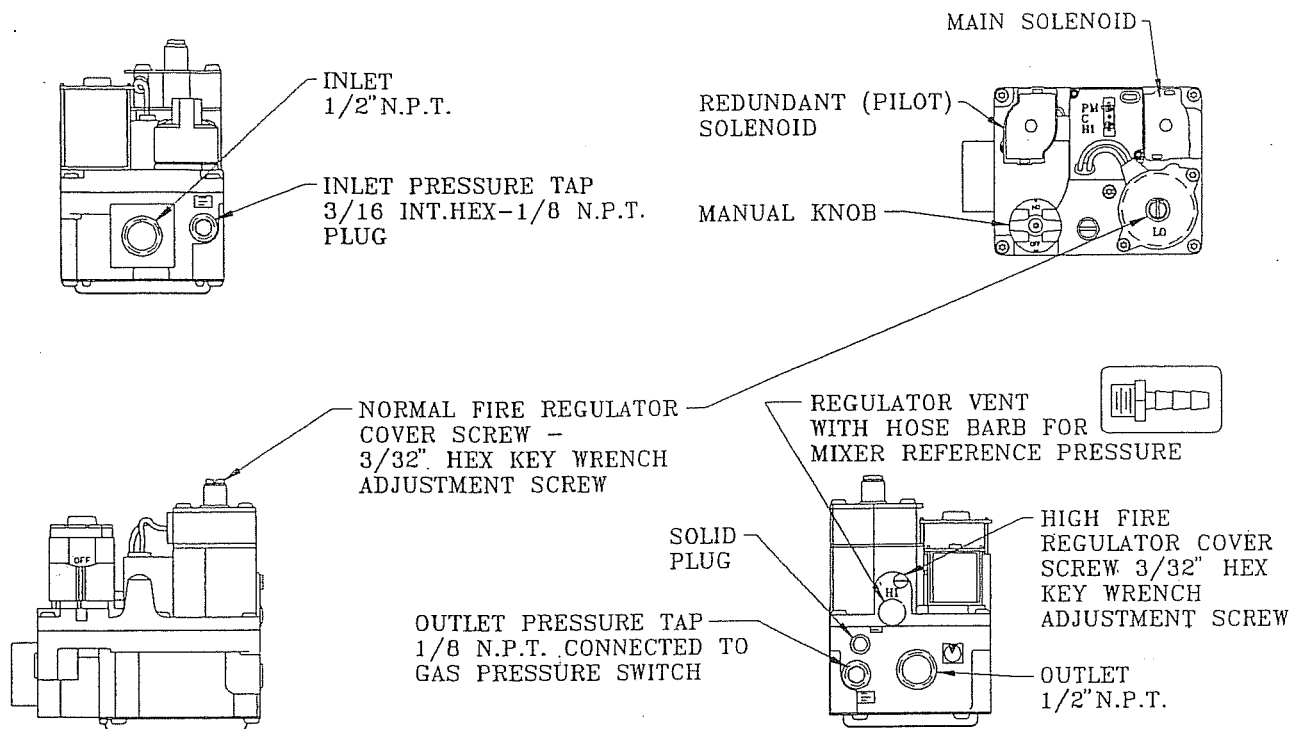

FIG. 18 - GAS VALVE
- e. Verify that high fire manifold pressure is 4.5 inches w.c., just after burner ignites. If within ± 0.2 (4.3 to 4.7) inches w.c., proceed to step f. If not, adjustment is required. This adjustment must be made during the first thirty seconds of burner firing, before the gas valve switches to normal firing rate. Prepare for adjustment as follows: (see fig. 18 for gas valve detail)